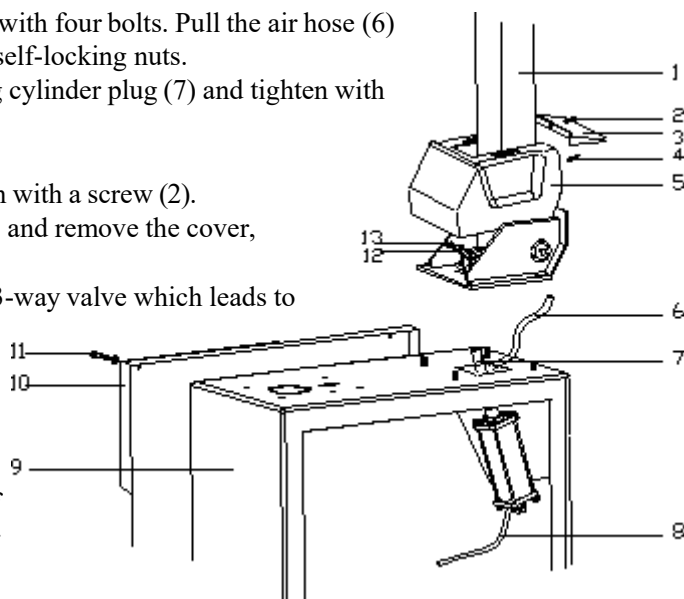

Fig 3
- 1) Fasten the column (part 1 in Fig 3) on the frame with four bolts. Pull the air hose (6) through the hole on the column. Tighten with 4 self-locking nuts.
- 2) Insert screw (13) into the column. Add the tilting cylinder plug (7) and tighten with self-locking nuts (12).
- 3) Attach the plastic cover (5) with two screws (4).
- 4) Attach the smaller plastic cover (3) to the column with a screw (2).
- 5) Unscrew the two bolts (11) on the left cover (10) and remove the cover, connect the air hose (8) to the 5-way valve.